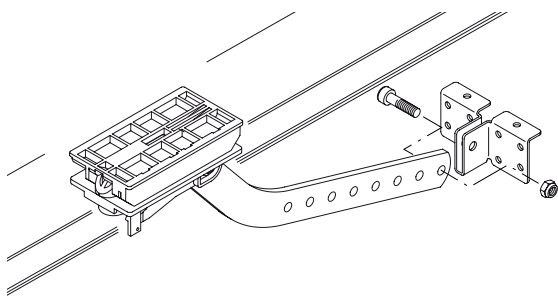

Fig.25
8) Apply the leaf fixing bracket to the curved bracket JMP.7 as indicated in figure 25, blocking it with the screw and nut.